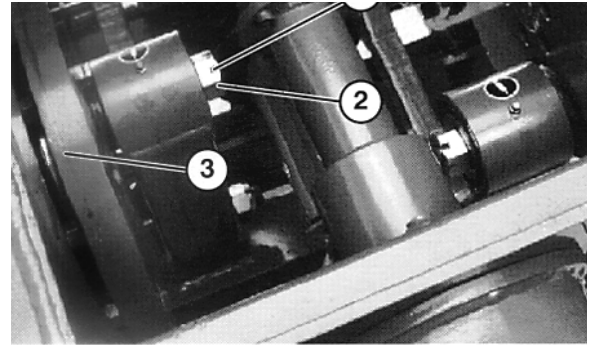

Figure 17
3. Make sure end of gear case vent tube is open and clean (Fig. 17).
2. Remove the roll pin securing the castle nut to the top crankshaft (Fig. 17). Check the castle nut for tightness with fingers. If the nut is very loose, rotate it clockwise until it is flush against the outer spacer and resistance is felt.